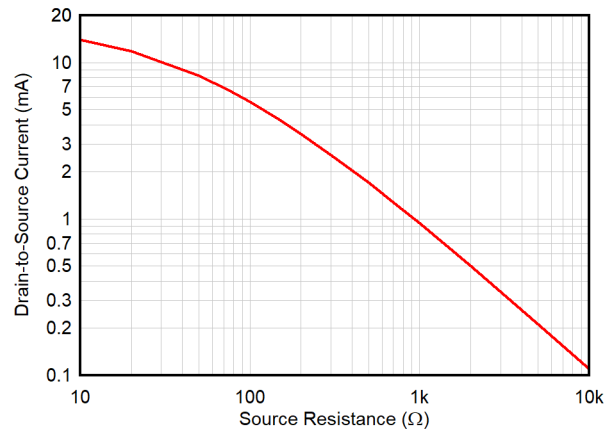

Figure 9-4. Drain-to-Source Current vs R_S , $V_{DS} = 5\text{ V}$
performance. The JFE2140, however, delivers significantly lower noise performance than most operational amplifiers at the same current consumption. The bias current (I_{DS}) is set by the value of the source resistor, R_S , and the threshold voltage, V_T , of the JFE2140. For JFETs, this threshold voltage is equivalent to the gate-to-source cutoff voltage, V_{GSC} . A graph showing nominal I_{DS} vs R_S is shown in Figure 9-4.
R _{S2}	Bias-current setting resistor. This resistor, along with R _{S1} , determine the bias current when using resistive biasing (see 图 9-4). Be aware that both R _{S1} and R _{S2} resistance directly impact noise performance.
- The bias current is set by selecting the desired bias current and noise tradeoff (see 图 6-16). To set the bias current point, adjust the source resistance according to 图 9-4.